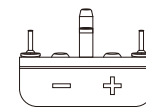
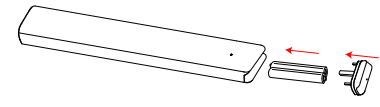

Figure 1
Figure 2
3. Install the batteries as shown in the illustration in the battery compartment (Figure 2). Please note there are negative and positive marks shown on the battery cover (Figure 1). Check carefully to ensure the polarity of the batteries match the markings on the cover.